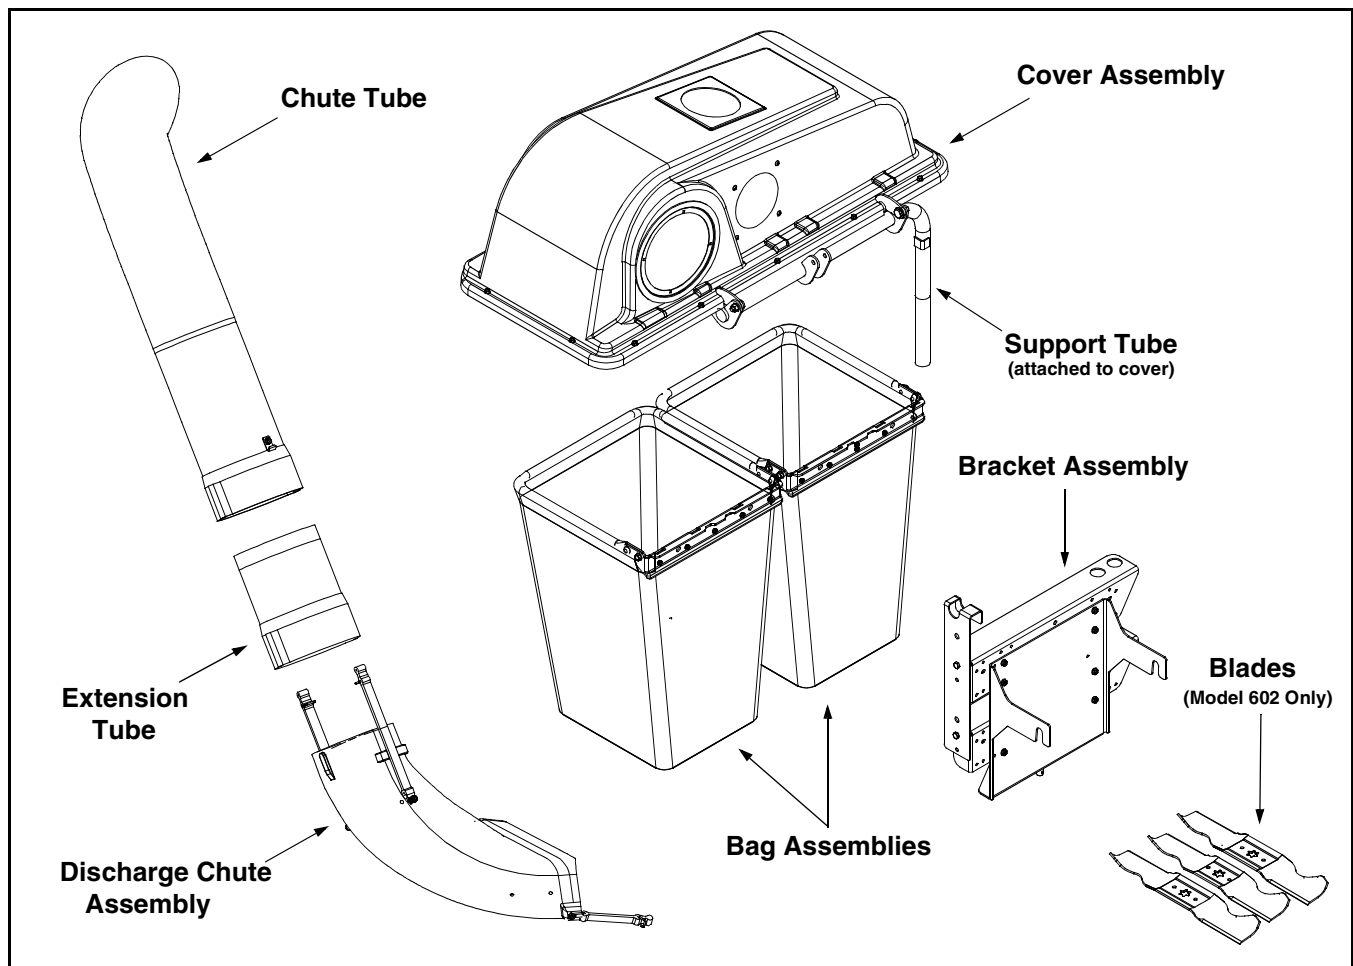
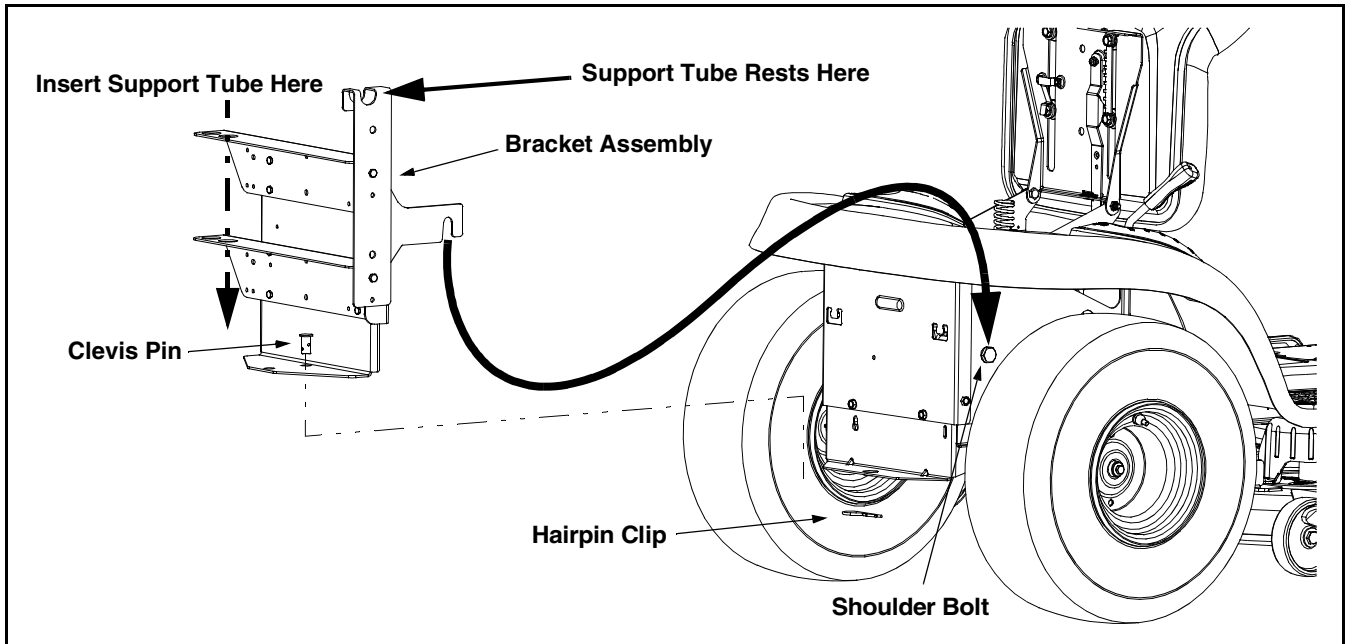

Figure 2
Figure 3
3. Position the hooked ends of the bracket assembly to the outside of the hitch plate and over the shoulder bolts. Refer to Figure 3.
4. Reinsert the clevis pin through the aligned holes in both the bracket assembly and the hitch plate and secure with the hairpin clip. Refer to Figure 3.
1. Place the cover assembly's support tube (refer to Figure 2) in position on the rear of unit by sliding the support tube down through the holes in the left side of the bracket assembly. Use the **inside** hole on the bracket assembly regardless of what size deck your tractor is equipped with. Refer to Figure 3.
2. Place the cover assembly in position so that the support tube rests on the right side of the bracket assembly. Refer to Figure 3. Allow the plastic cover to rest in the "open" position on the back of the tractor's seat until Step 3 is completed.